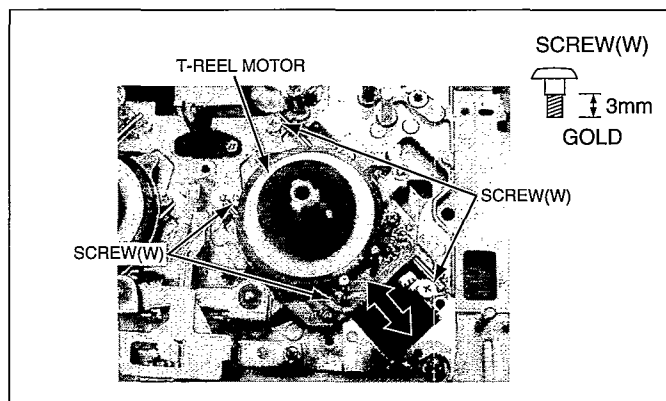

Fig. M-38
- Fig. M-38 Unscrew 4 screws (W) and remove the T Reel Table with 2 shifts.